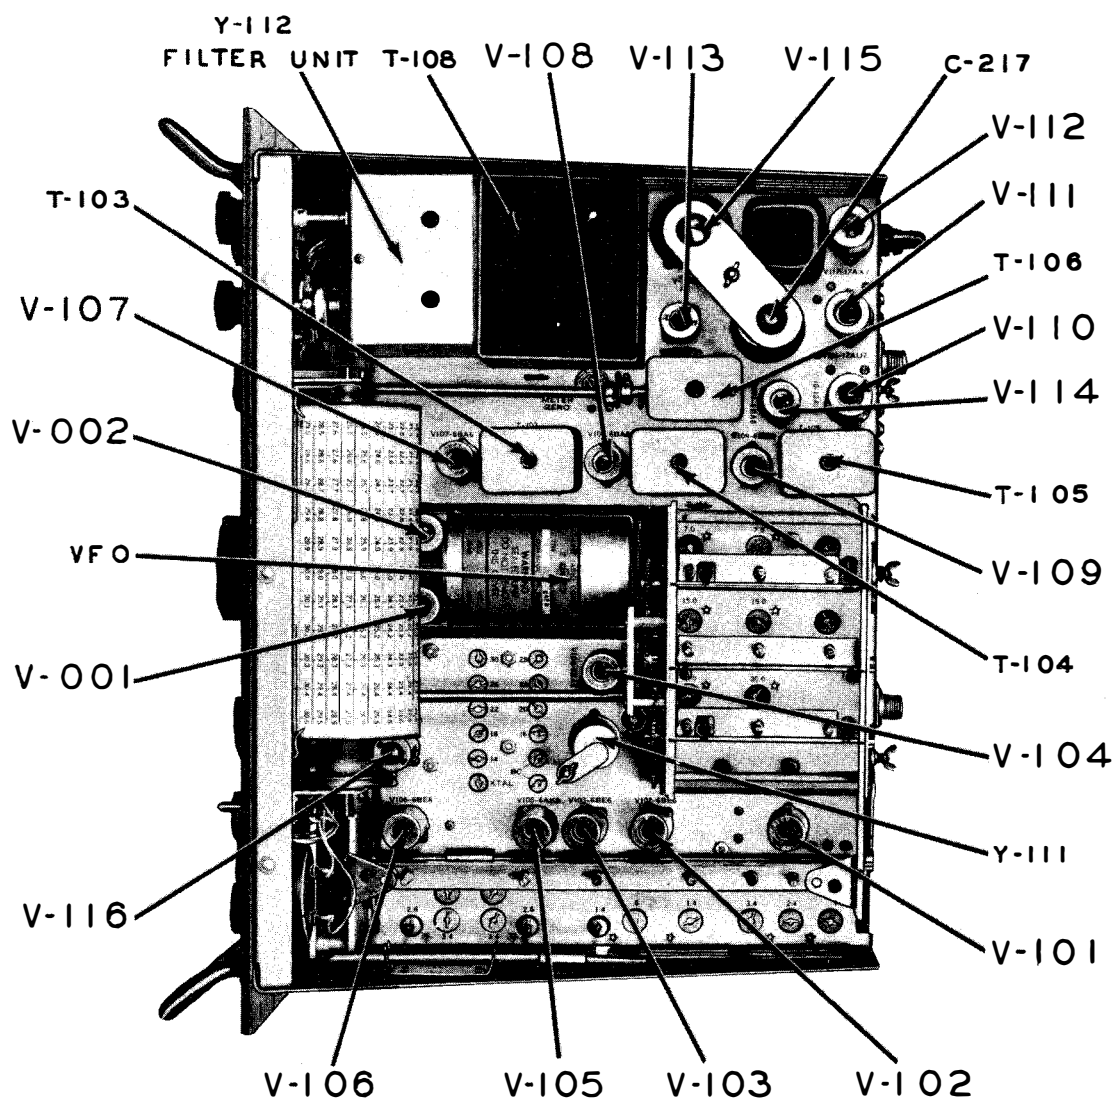

Figure 5-1. Top View, Tube and Parts Identification
a. LOCATION. - All tubes are accessible from the top of the receiver chassis after dust cover removed. Figure 5-1 shows the tube layout on the chassis.
(1) Remove tubes by pulling them straight up.
(2) Before inserting a tube, make certain that the pins are straight and that it is of the correct type for the socket into which it is to be placed.